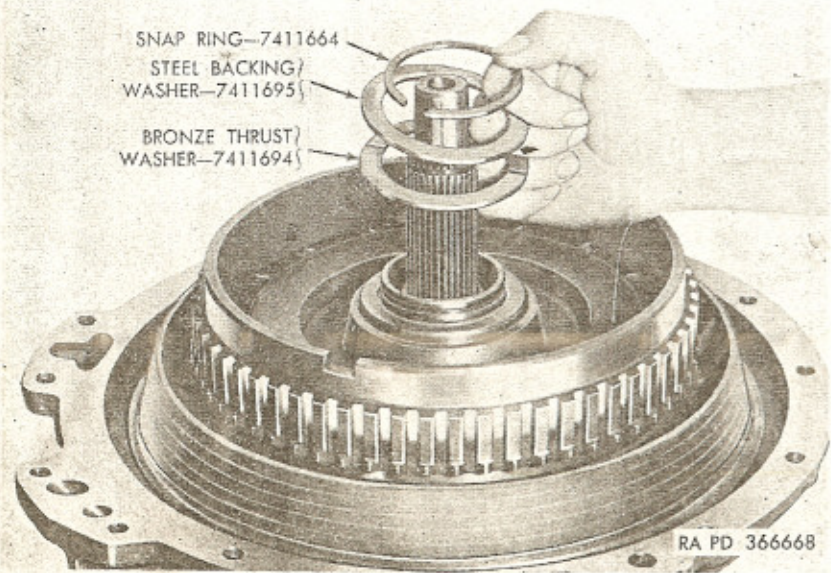
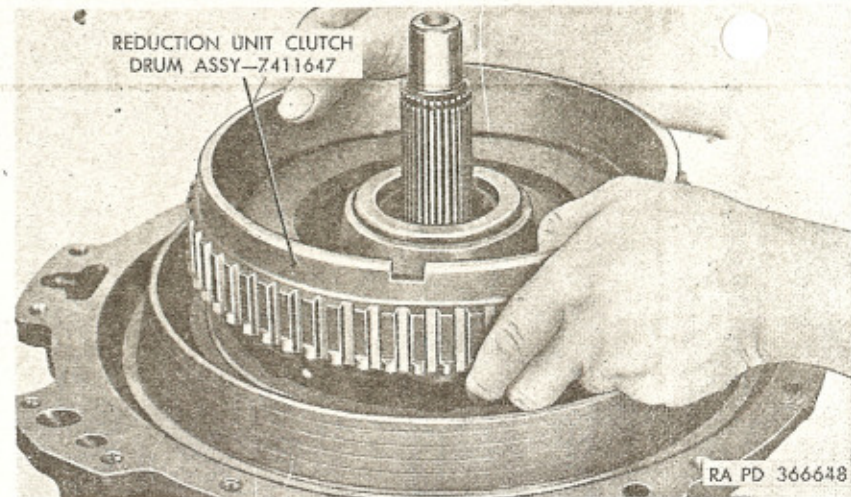

Figure 24. Removing or installing reduction unit clutch drum rear thrust washers and snap ring (303M).
Figure 25. Removing reduction unit clutch drum assembly (303M).
f. With snap ring pliers, remove snap ring which holds reduction unit clutch drum to bearing retainer. Remove reduction unit clutch drum rear bronze thrust washer and steel backing washer (fig. 24). Remove reduction unit clutch drum assembly (fig. 25).